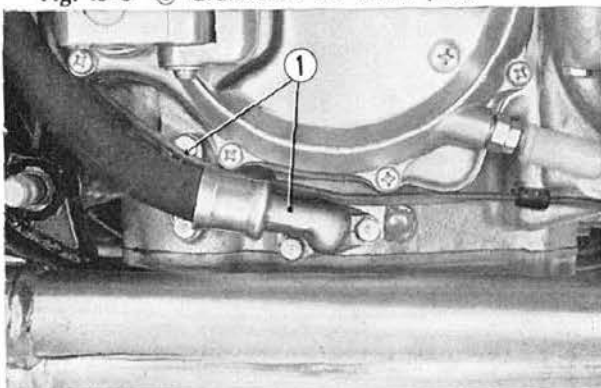

Fig. 15-9 ① Engine oil hoses
3. Disconnect the two oil hoses at the engine fittings. (Fig. 15-9)